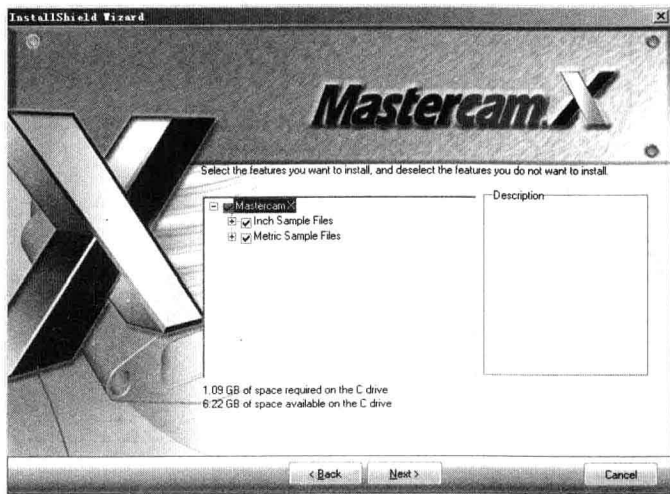

图 0.11 Select the features you want to install, and deselect the features you do not want to install 界面
(11) 设置好安装目录后单击 Next 按钮, 打开如图 0.11 所示的 Select the features you want to install, and deselect the features you do not want to install 界面, 安装需要的示例文件。可以通过选中或取消选中前面的复选框来设置是否安装示例文件。